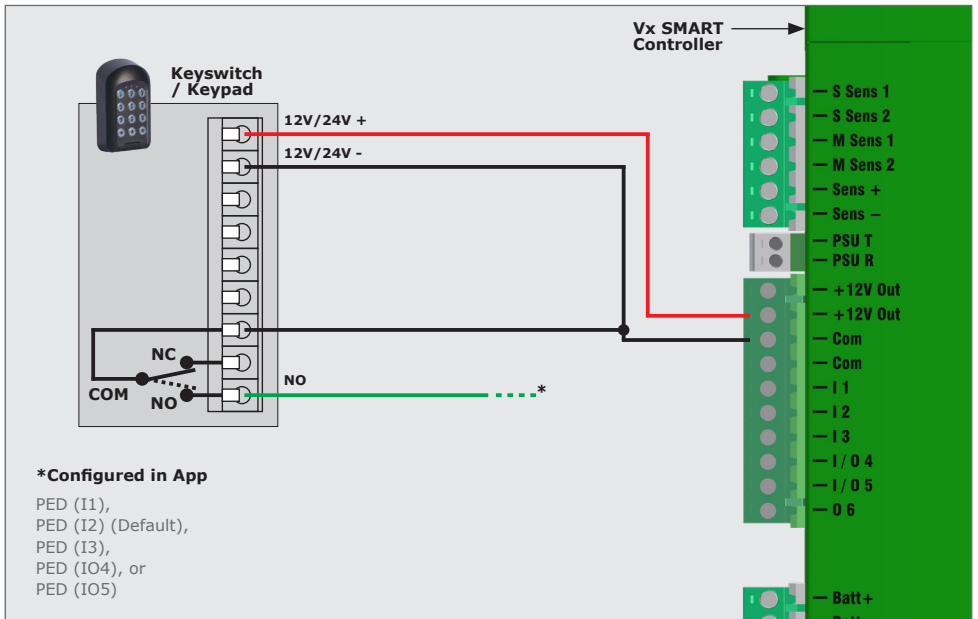

FIGURE 60
1. Scan the QR Code in Figure 60.